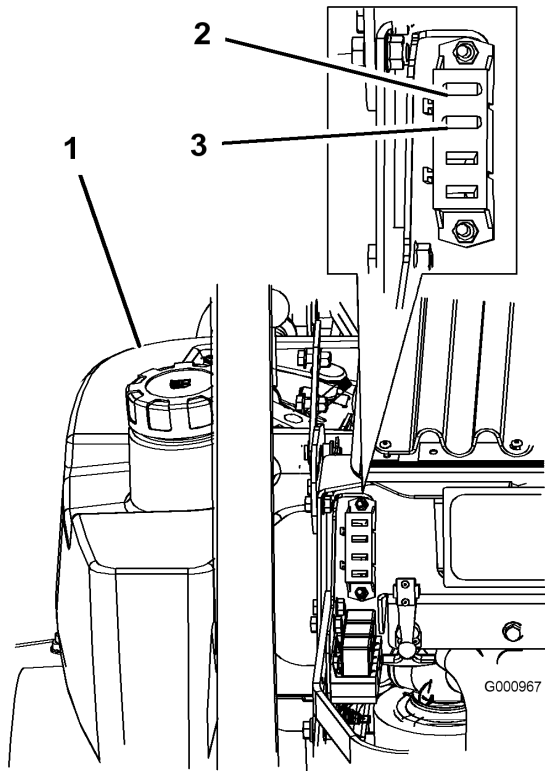

Figure 45
1. Unlatch the engine hood and raise the engine hood to gain access to fuse holder (Figure 45).
3. Install a new fuse (Figure 45).